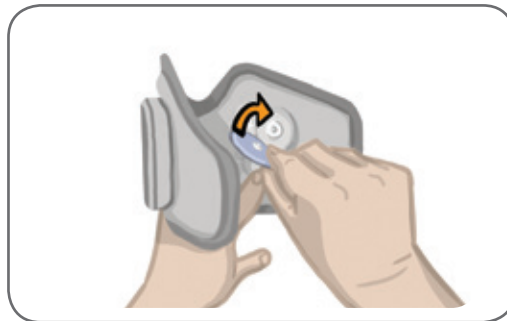

Figure 8-5: Attaching the Cloth Electrodes
6. Attach the Cloth Electrodes to the electrode bases. See Figure 8-5. For regular lower leg FS Cuff users make sure the Cuff Snap Covers are in place.